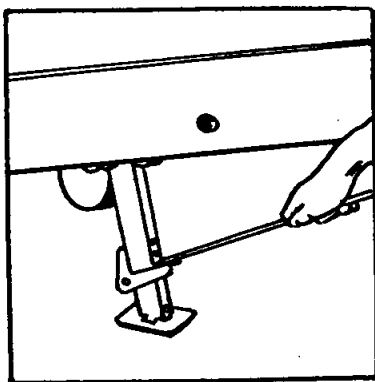

FIGURE 6
14. Each stabilizer jack has an inner leg which must be extended to the ground. Because of certain terrain conditions, it may be advisable to locate flat blocks of wood or flat rocks under the base plates of the stabilizer jacks. See Figure 6.